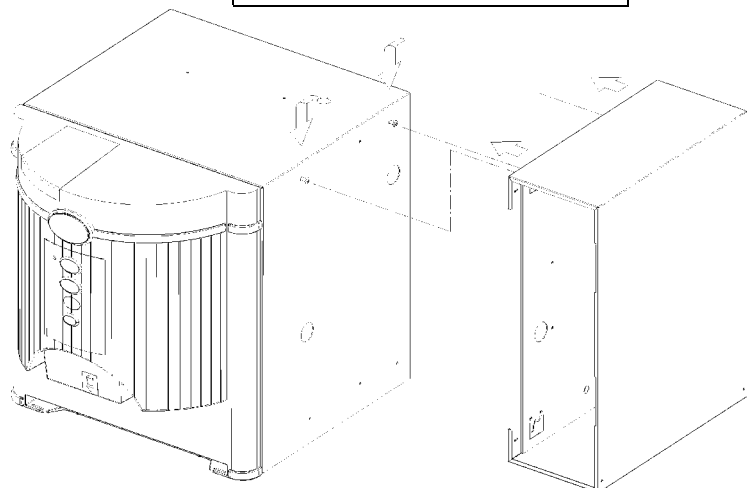

Figure 2c – Mount the APP to the side of the machine, and install or tighten screws.
8. Mount the APP unit onto the two top screws (*figure 2c*).